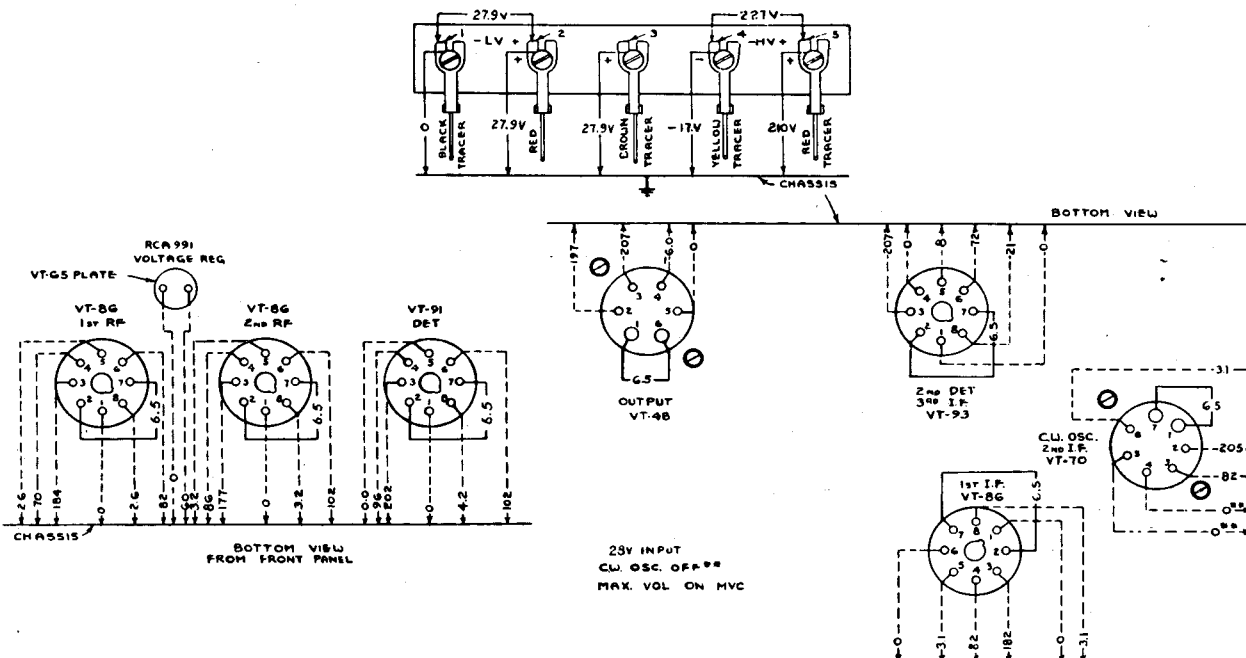

Figure 16 — Radio Receiver BC-348-(*)
When all signals on all bands are weak or no signals are heard when known to be present, follow the procedure shown in the chart. The voltages checked at the dynamotor terminal board should closely approximate the values shown in figure 16. Conditions of measurement are as follows:
(2) TUBE CHECK.—If the voltages at the dynamotor terminal board approximate the values given, proceed to check all tubes for emission and characteristics or replace all tubes with those of known average characteristics.
(3) CHECK OF SOCKET VOLTAGES.—If tubes check satisfactorily, or if, after replacing with tubes known to be good, the sensitivity is still low, proceed to check all tube socket voltages with Test Set I-56-A as outlined in paragraph 14f. The average socket voltages are given in figure 16.
(4) CHECK CIRCUIT WIRING AND COMPONENTS.—If the tube socket voltages do not approximate the values shown in figure 16, check the associated circuits and components for grounds, shorts and similar defects.
(5) TEST OF AUDIO-FREQUENCY AMPLIFIER.—Having checked all socket voltages and found the values to be correct, proceed to the test of the audio frequency amplifier. This can be checked by capacitively coupling a 400-cycle voltage of approximately 2 volts rms between ground and the detector diode socket prong using a capacitor of 0.5 mfd. As an alternative, a modulated 915-kc signal of 2 volts may be coupled to this point and ground. Proper functioning of the audio amplifier will be indicated by an output well over 10 milliwatts for the 2-volt audio input or approximately 1 milliwatt output for 915-kc input. Check circuits, wiring and components if this order of response is not obtained.
(6) TEST OF I-F AMPLIFIER.—Following a satisfactory test of the audio amplifier, check the inter-